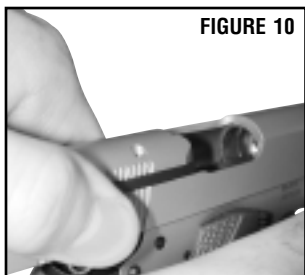

FIGURE 10
- With the muzzle still pointing in a safe direction, grasp the serrated sides of the slide from the rear with the thumb and fingers as shown in figure 10, and briskly draw the slide fully rearward and release it. This strips a cartridge from the magazine and seats it in the chamber of the barrel and at the same time, fully cocks the hammer.